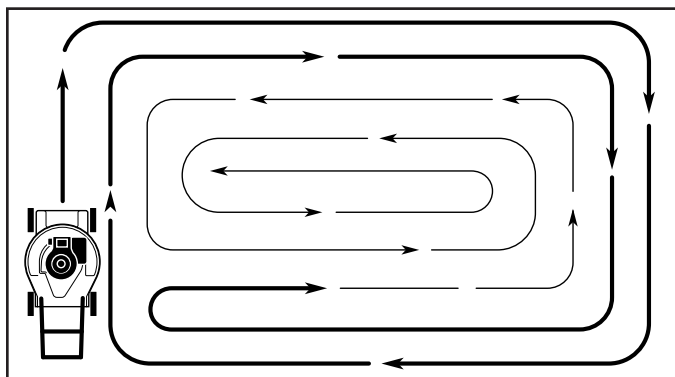

FIG. 12
- For side discharge operation, cut in a counterclockwise direction, starting at the outside of the area to be cut, in order to spread grass clippings more evenly and to put less load on the engine. To keep clippings off of walkways, flower beds, etc., make the first cuts in a clockwise direction (See Fig. 12).